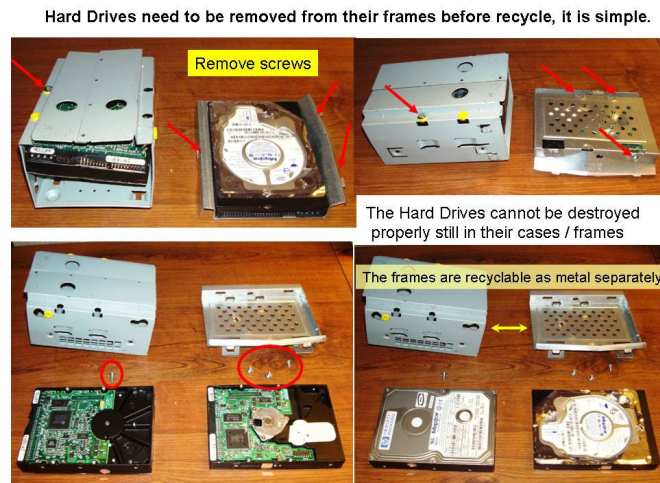

Figure 1
- (1). The IT Manager or Security Manager will complete the HD Turn-in document (Section 4.4.6.7.3.3) and certify that all information is accurate.
- (2). The Unit Environmental Coordinator (UEC) will check all information and certify that all information is accurate.
- (3). The IT Manager, Security Manager, Unit Environmental Coordinator (UEC), or Hazardous Waste Coordinator (HWC) will schedule a turn-in or degaussing appointment with the SWRC.
- (e). HDs must be deconstructed prior to turn-in separating the components as follows (See Figure 1):
- (f). The IT Manager or Security Manager will keep the copy for three (3) years.